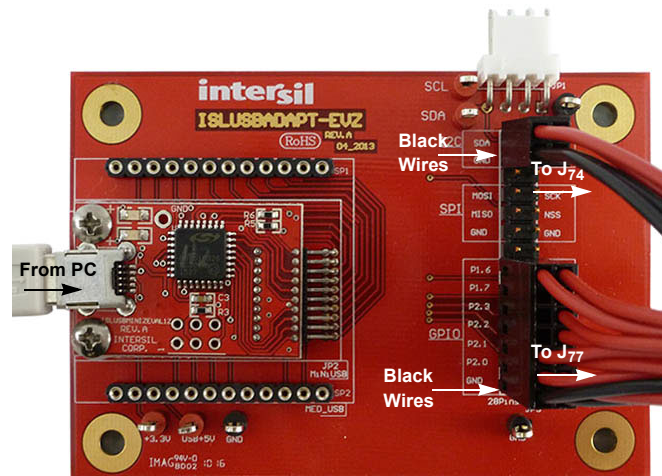

Figure 3. Connection of Cables to the USB to I²C Board
The hardware must be connected to a computer through the USB cable for the software to start. Figure 3 shows the connection of the cables to the USB to I²C board.
- (1) Verify that the computer is connected to the USB to I²C board and the evaluation board.
- (a) See Figures 3 and 4 for the ISL78226EVAL1Z setup.
- (b) See Figures 3 and 5 for the ISL78224EVAL2Z setup.
- (2) Verify the jumper connections in Table 1. **Note:** Jumpers not listed in the table are not populated. Some of these “jumpers” are measurement terminals and cannot tolerate being shorted.